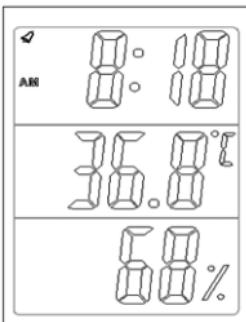

Fig. 4
2. The *minutes* will start to blink; use the **ADJ** button to change to desired setting (see Fig. 4).